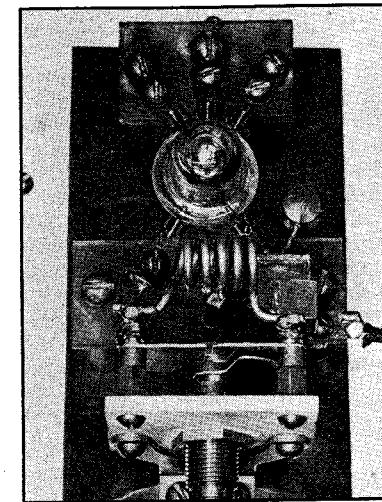

FIG. 6—THE "ACORN" DETECTOR TUBE AND ITS TUNING EQUIPMENT
- C₃—Brass strip 3/16 inch wide mounted close to the exposed surface of C₂ (see Fig. 6).
avoiding structural complications. Since the smallest midget condenser did not appear to be satisfactory for the grid condenser C₂, we proceeded to build one from two pieces of brass, measuring 3/4 by 3/8 inch. Each piece was folded in two and the pieces were then interleaved, the plates being kept apart by thin pieces of mica. The whole assembly was drenched with Duco cement and then squeezed in a vice. A lead was then soldered to each of the brass elements. Another item which had to be "homebrewed" was the tuning condenser. Believing that the normal midget condenser has an excessively large path between its terminals, we cooked up a special condenser shown clearly in Fig. 6. It consists of a three-plate, Cardwell Trim-air midget with the one stator plate sawn down the middle. In this way a split stator condenser is obtained—one having an extremely low minimum capacity and a short path between one terminal and the other. If